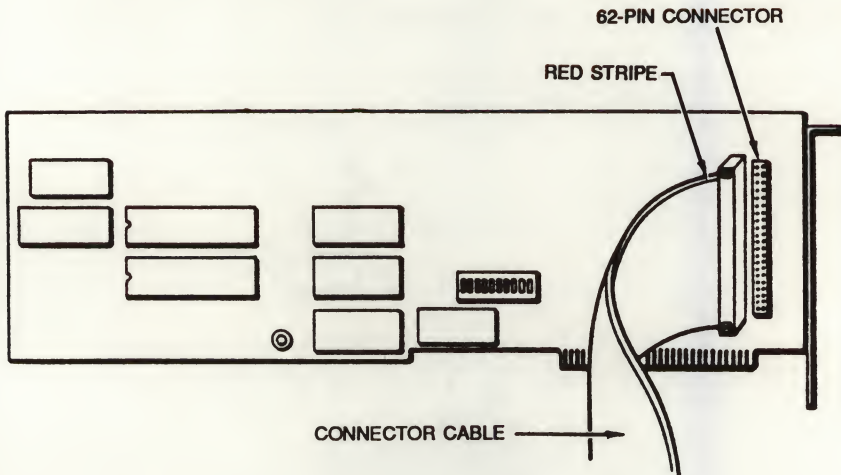

Figure 3-4 Connecting the Ribbon Cable
5. If the ribbon cable is not already connected to the tape controller card, connect the cable as shown in Figure 3-4.